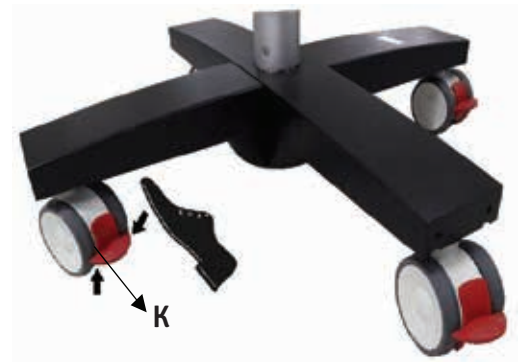

Fig. 18
Lock the stand to prevent unwanted movement by pressing down all the four brakes (K) provided in the caster wheels and lift up the brakes to release the brakes as shown in Fig. 18.